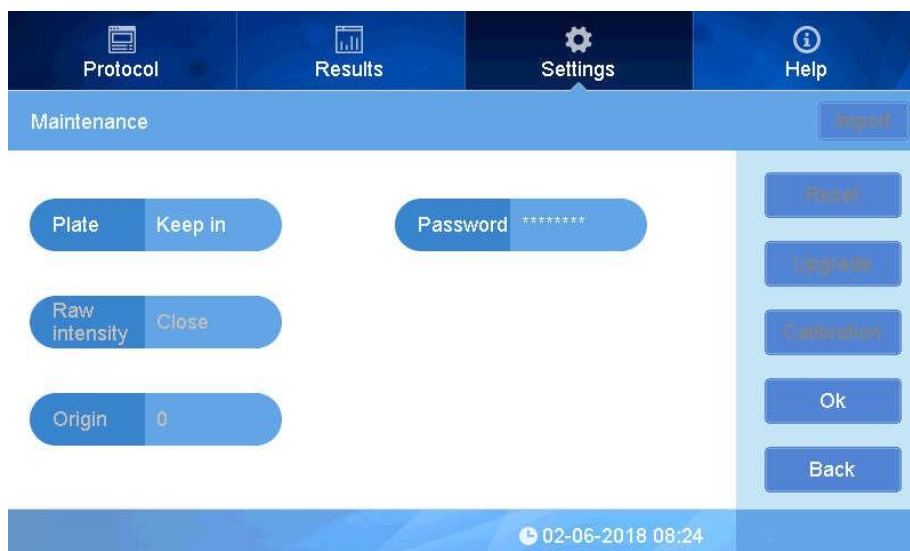

Fig.50
- Click “Maintenance” to enter into interface(Fig 50).